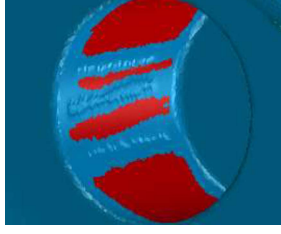

Figure 62
2. **Select** around the distorted areas as shown in **Figure 62**. Continue to **select/rotate** to gather as much cylindrical information for the fitting process as you can. Feel free to use other selection tools of your choice.